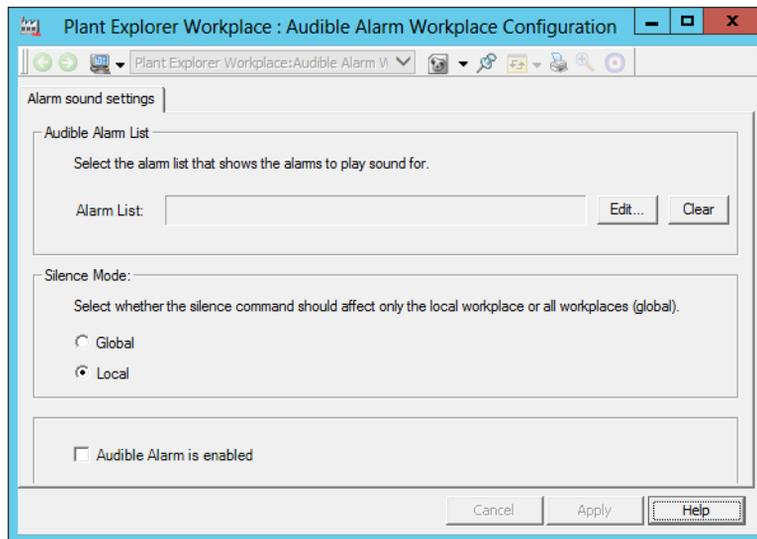

Figure 41. Audible Alarm Workplace Configuration Aspect
2. Select your Workplace object and open the Audible Alarm Workplace Configuration aspect. Refer to Figure 41.